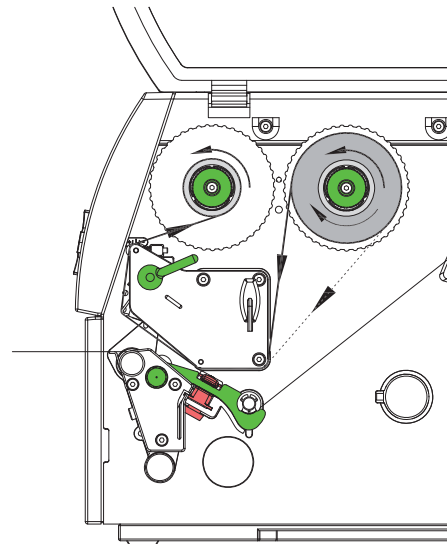

Fig. 10 Transfer ribbon feed path
6. Slide suitable transfer ribbon core (4) onto the transfer ribbon take-up hub (5). Position and secure it in the same way as the supply roll.
7. Guide transfer ribbon through the print unit as shown in Fig. 10.
8. Secure starting end of transfer ribbon to middle of the ribbon core (1) with adhesive tape. When using cores which are wider than the transfer ribbon use the scale (7) at the printhead retainer to adjust the path of the ribbon. Ensure counterclockwise rotation direction of the transfer ribbon take-up hub.
9. Turn transfer ribbon take-up hub (5) counterclockwise to smooth out the feed path of the transfer ribbon.
10. Turn lever (6) clockwise to lock the printhead.